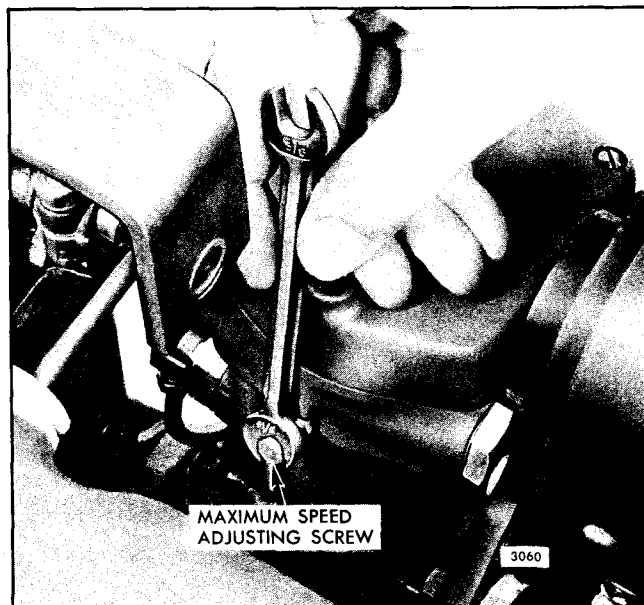

Fig. 5 - Adjusting Maximum Engine Speed
3. Loosen the lock nut and back off the maximum speed adjusting screw (Fig. 5) approximately 5/8".
3. Turn the maximum speed adjusting screw (Fig. 5) in lightly until contact is felt with the linkage in the governor.